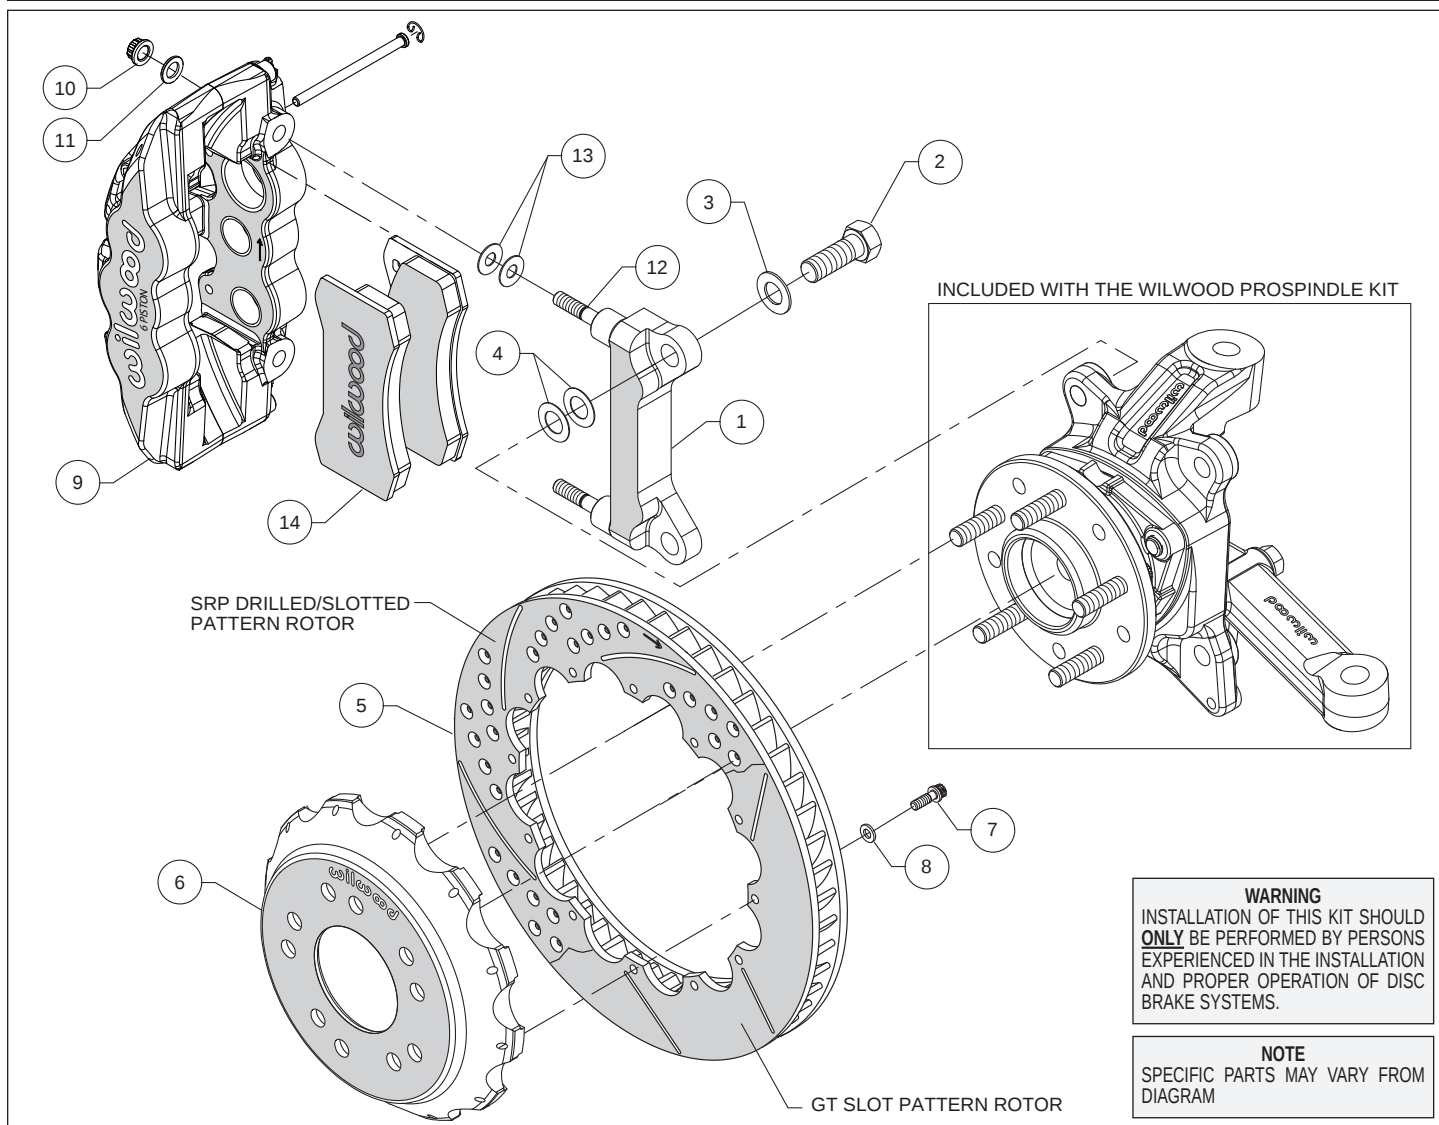
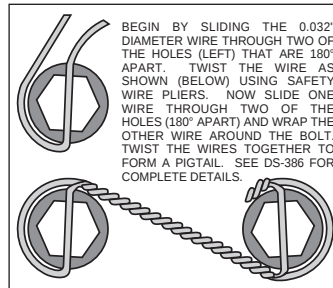

Figure 1. Typical Installation Configuration
Figure 3. Safety Wire Diagram
**Assembly Instructions** (numbers in parenthesis refer to the parts list and Figure 1 on the preceding pages):
• The caliper mount bracket (1) should initially be installed with clean, dry threads on the mounting bolts. Orient the bracket as shown in Figure 1 and Photo 1 and install using mount bolts (2) and washers (3). Initially place two .024" thick shims (4) on each bolt between the bracket and spindle, Figure 1. Temporarily tighten the mounting bolts. **NOTE:** The bracket must fit squarely against the mounting points on the spindle. Inspect for interference from casting irregularities, machining ridges, burrs, etc. Later, after the caliper alignment has been checked, the mount bolts will be secured using red Loctite® 271.
- Orient the rotor (5) and the hat (6) as shown in Figure 1 and Photo 2. Attach rotor to hat using bolts (7) and washers (8). Using an alternating sequence, apply red *Loctite*® 271 to the threads, and torque to 155 in-lbs. For an added measure of security, the bolts may be safety wired using standard 0.032 inch diameter stainless steel safety wire as shown in Figure 3. Please refer to Wilwood's data sheet DS-386 (available at [www.wilwood.com/Pdf/DataSheets/ds386.pdf](http://www.wilwood.com/Pdf/DataSheets/ds386.pdf)) for complete safety wire installation instructions.
- **NOTE:** This kit contains distinct right and left hand calipers that must be mounted in a specific direction, as described below. Lubricate the caliper mounting studs (12) with lightweight oil. Initially place two .030" thick shims (13) on each stud between the caliper and the bracket, as shown in Figure 1 and Photo 5. Mount the caliper (9) onto the bracket (1) using lock nuts (10) and washers (11), Figure 1. Ensure that the caliper is mounted so the largest pistons are at the rotor exit end of the caliper, in relation to the direction of rotor rotation. Temporarily tighten the lock nuts and view the rotor through the top opening of the caliper. The rotor should be centered in the caliper, Photo 6. If not, adjust by adding or subtracting shims (4) between the bracket and the spindle. Always use the same amount of shims on each of the two mounting bolts. Once the caliper alignment is correct, remove the bracket mounting bolts one at a time, apply red *Loctite*® 271 to the threads, and torque to 140 ft-lb.
- Remove the two pad retaining pins from the caliper (9) by carefully popping out the pin retaining clips and sliding out the pins. Insert the brake pads (14) into the caliper from the bottom, Figure 1, Photo 7. With the friction material facing the rotor, secure the brake pads in place with the pad retaining pins and clips, Photo 8. Reinstall the caliper onto the caliper mounting bracket and temporarily tighten the lock nuts. Check that the top of the brake pad is flush with the outside diameter of the rotor, Photo 9. If not, adjust by adding or subtracting shims (13) between the caliper and the bracket. After the caliper pad height is set, torque the caliper lock nuts (10) to 47 ft-lb.